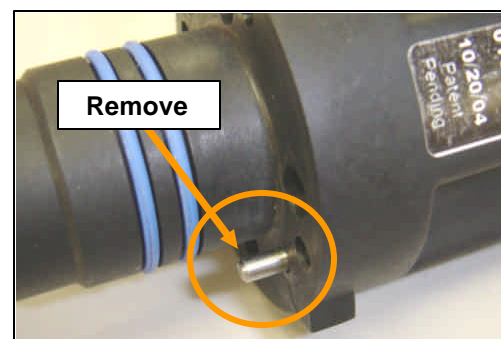

Figure 3: Steel Pin on Flow Sensor
1. Remove only the Paddlewheel Flow Sensor from the flange or manifold. Be sure to keep all four (4) socket head caps screws and four (4) internal tooth lock washers. (It is not necessary to remove the flow sensor's mounting ring.)
2. Using a pair of pliers, remove the small, steel pin from only the flow sensor (see Figure 3). The pin will no longer be required and can be discarded.